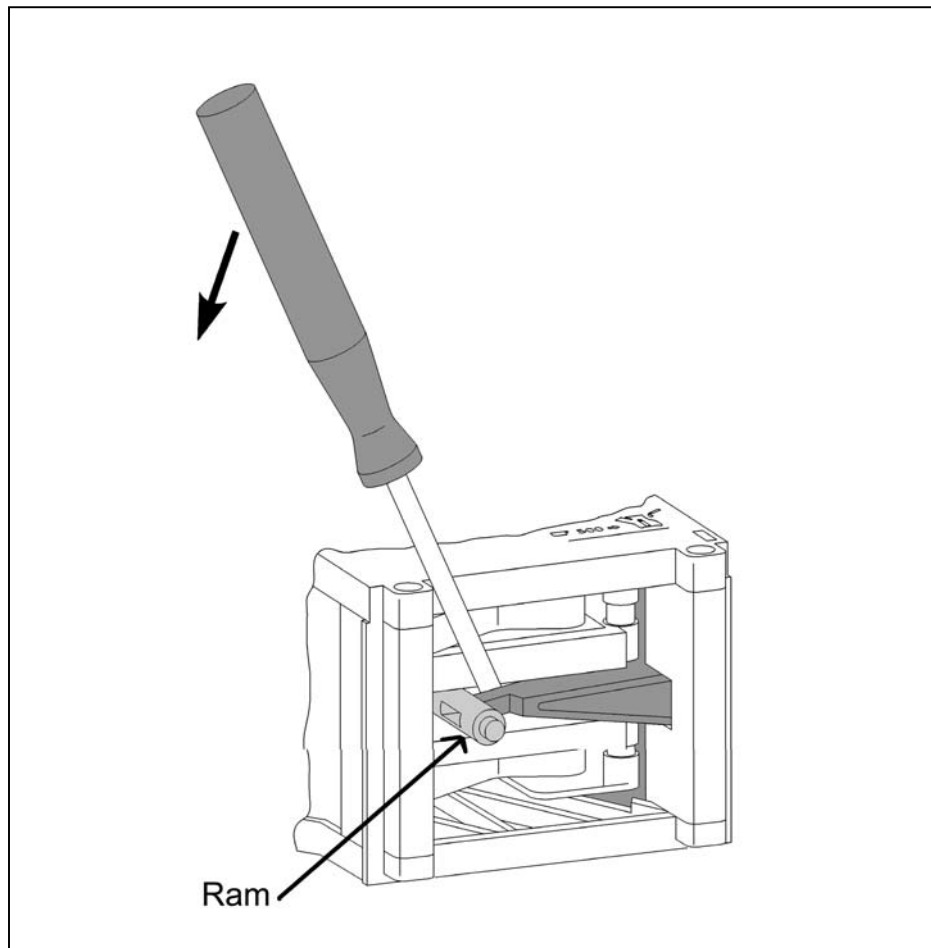

Figure 5-29: Releasing the ram from the bottom of the brew unit.
3. Remove the bottom filter screw and filter (Figure 5-29, Items 1 and 2).